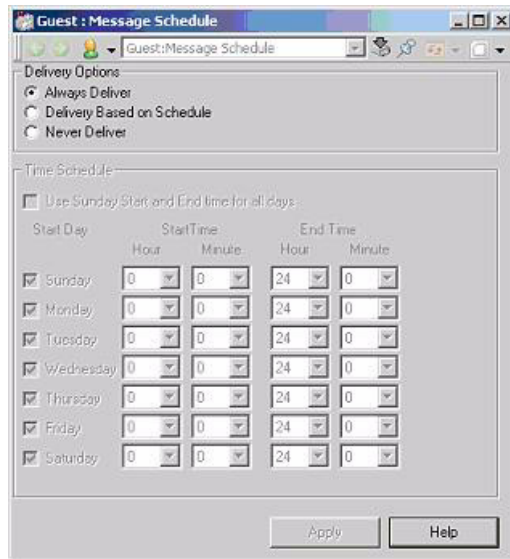

Figure 106. Message Schedule (Always Deliver)
5. Right-click on the user and select **Message Schedule** from the context menu that appears. This opens the Message Schedule shown in Figure 106. The default value in the Delivery Options frame is **Always Deliver**.